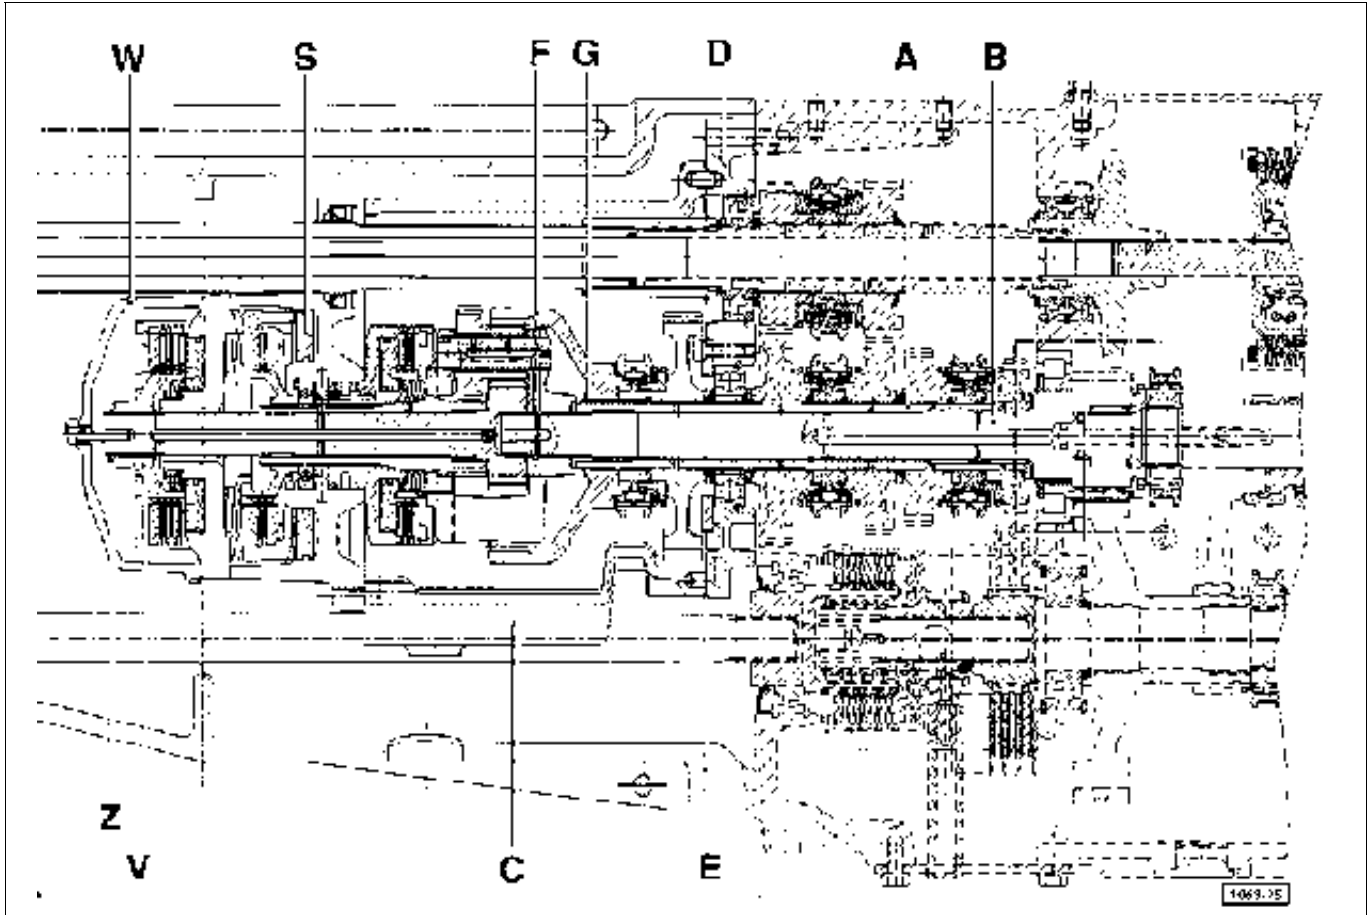

Fig. 7 - Components of the AGROSHIFT unit.
- Fit the cover **W** p/n 007.6198.0 (fig 7), applying sealant (Pianermetic 510) to the mating surfaces.